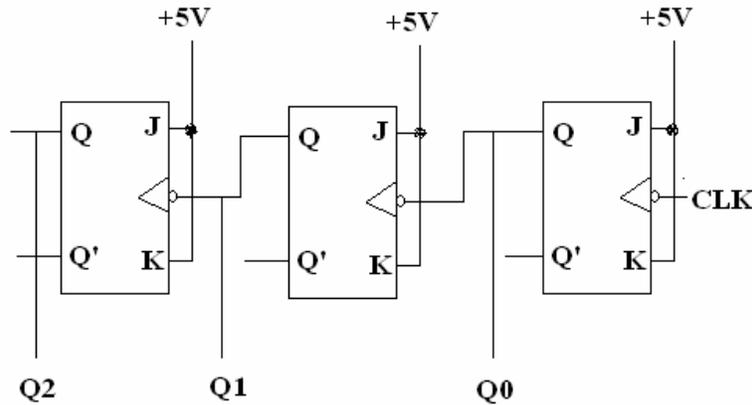

Figure.18: 3-bit Ripple Counter
1. Use KL-26007 module, block c, which contains three separated JK flip flops to implement the 3-bit (divide by eight) Ripple counter shown in Figure.18.